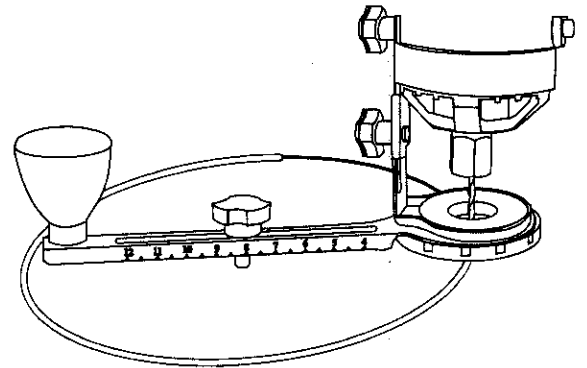

Fig. 14
6. When the motor is up to full speed, slowly tip the tool and circle cutter assembly to an upright position, letting the bit cut into the workpiece (see Fig. 14). Be careful to keep the pivot point located at the center of the circle to be cut. Once the tool has reached the upright position and the bit has cut through the workpiece, slowly move the tool in a **clockwise** direction using slow steady pressure to make the cut. Continue to cut the circle, keeping the tool upright and rotating around the circle cutter pivot point.